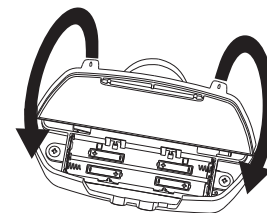

Fig. 45
Tubing not in notches.	Refer to p. 10, Fig. 45, completing the installation.
3. Insert four (4) new AA alkaline batteries into the Electronics battery compartment using diagram for orientation (Fig. 45).